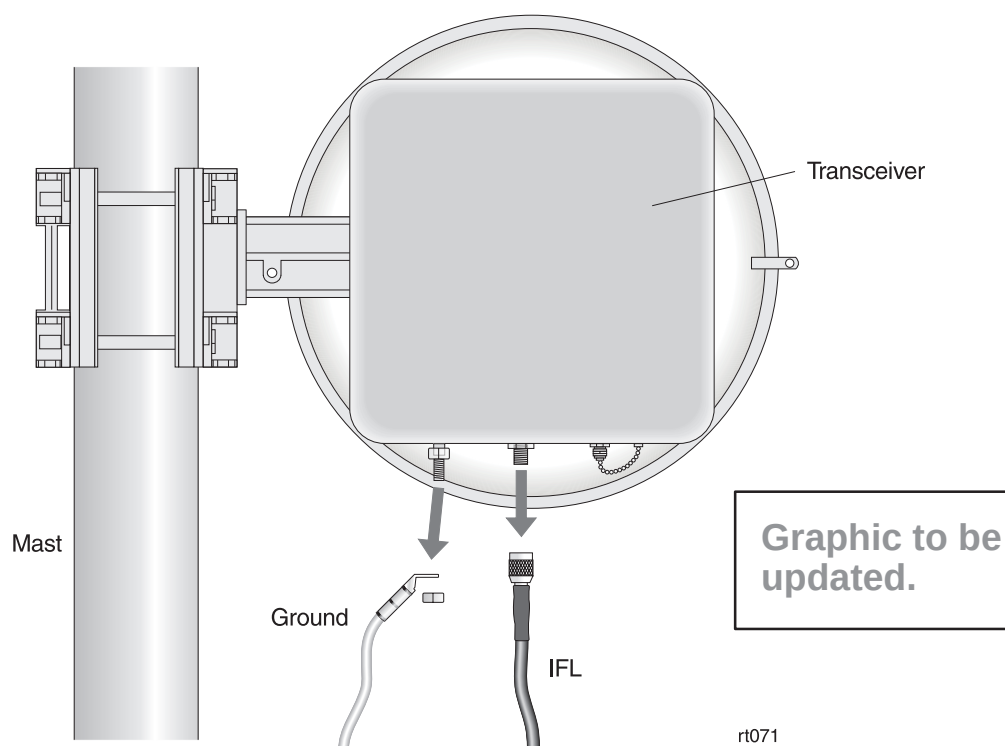

Figure 10-1 Disconnecting the ODU ground and IFL cables
3. **On the roof:** Disconnect the ground cable and IFL from the ODU transceiver, as shown in figure 10-1.